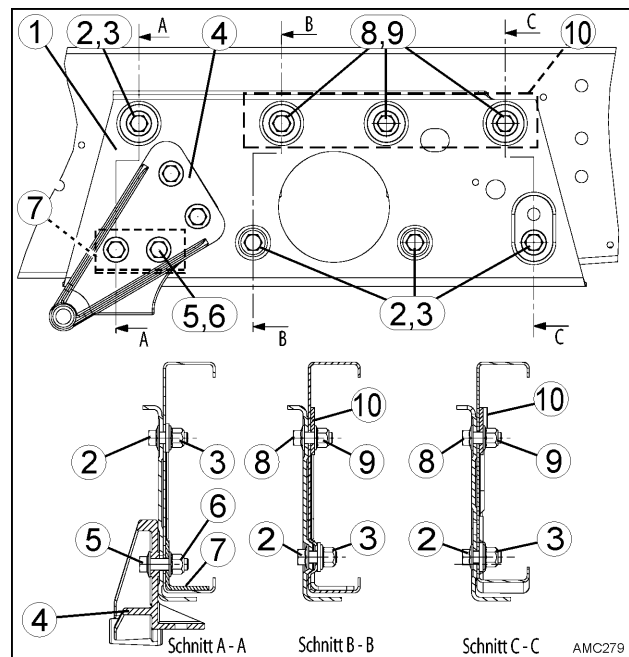

Fig. 38
14. Unscrew four M12x1.5 conternuts (Fig 38 - 6) from the inside of the frame.
15. Remove M12x1.5x40 hexagon bolts (Fig 38-5) with shock absorber mount (Fig 38-4) and angle (Fig 38 -7).
16. Unscrew three M12x1.5 conternuts (Fig 38 -9) from the inside of the frame.
17. Remove reinforcement plate (Fig 38 - 10) from the inside of the frame and take out M12x1.5x35 hexagon bolts (Fig 38 - 8).
18. Unscrew four M12x1.5 conternuts (Fig 38 - 3) from the inside of the frame.
19. Remove M12x1.5x35 hexagon bolts (Fig 38-2) and take the complete axle off (Fig 38 - 1).